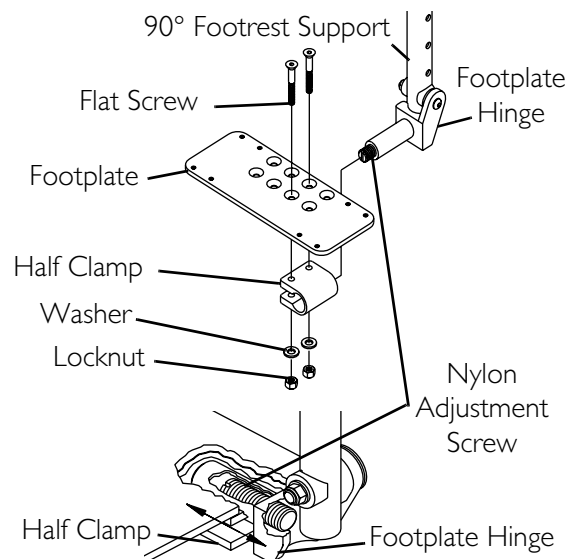
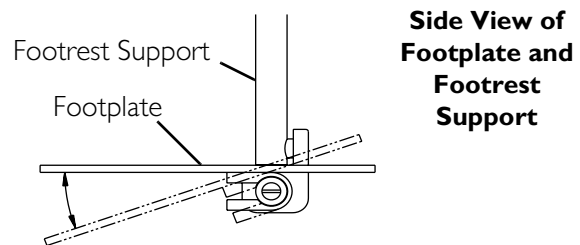
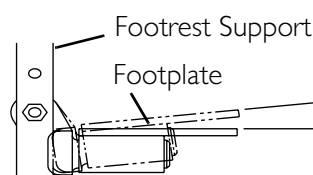

FIGURE 6.9 Installing Adjustable Angle Flip-up Footplates
FIGURE 6.10 Angle Adjustment
FIGURE 6.11 Perpendicular and/or Inversion/Eversion Adjustment
NOTE: For this procedure, refer to FIGURE 6.9.
NOTE: For this procedure, refer to FIGURE 6.9 on page 40.
NOTE: For this procedure, refer to FIGURE 6.9 on page 40 and FIGURE 6.10.
1. Loosen, but DO NOT remove, the two flat screws, washer and locknuts that secure the footplate to the footplate hinge (FIGURE 6.9).
2. Position the footplate to the necessary angle to accommodate the user (FIGURE 6.10).
NOTE: For this procedure, refer to FIGURE 6.9 on page 40 and FIGURE 6.11.
1. Insert a flathead screwdriver through the half clamp on the footplate (FIGURE 6.9).
2. Slowly turn nylon adjustment screw in or out until footplate is perpendicular to the footrest assembly or the desired inversion or eversion is obtained (FIGURE 6.11).